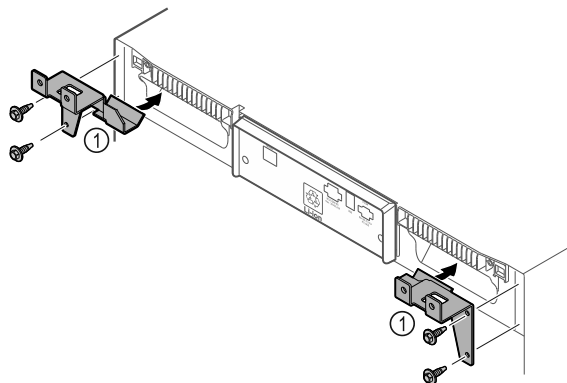

Fig. 67
- Fit the retaining parts Fig. 67 (1) to the device with self-tapping screws.